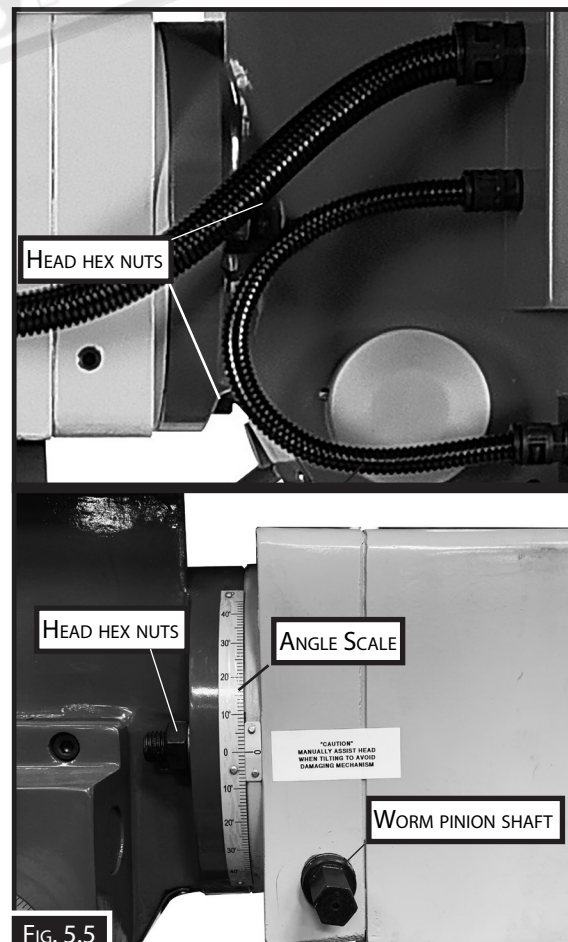

Fig. 5.5
2. Using a spanner, loosen anticlockwise the 3 hexagon nuts located at the rear of head end of the overarm as shown in Fig.5.5
Note: Use the angle scale shown in Fig. 5.5 as a guide for setting tilt angle. For an accurate angle the use of a protractor will be required.